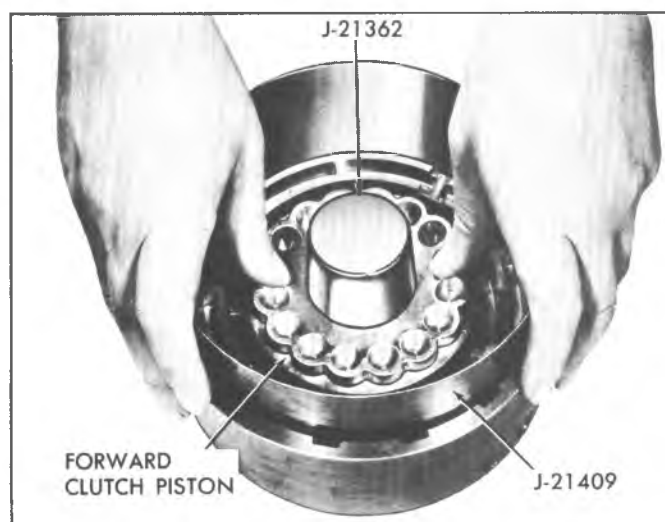

Fig. 74T--Installing Forward Clutch Piston
3. Place seal protector Tool J-21362, over clutch hub and install outer clutch piston seal Protector J-21409, into clutch drum and install piston, rotating piston on drum until seated (fig. 74T).